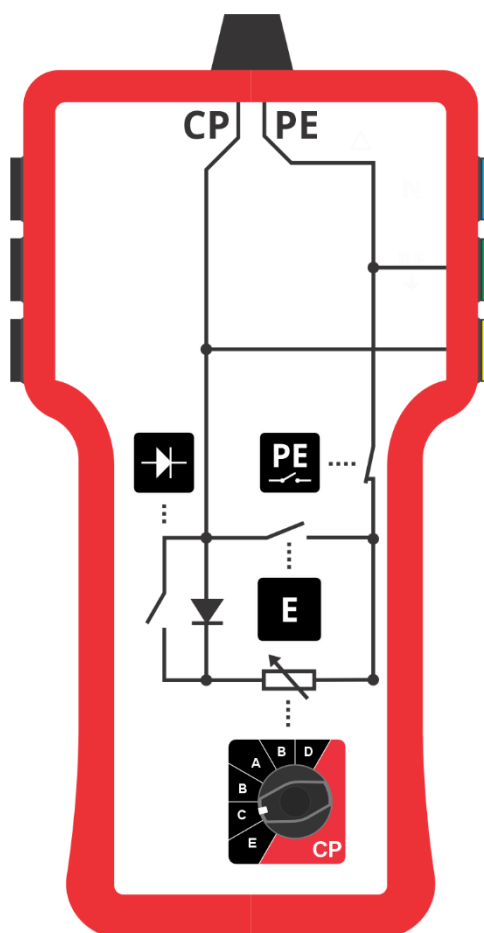

Figure 12: CP state switch and error buttons inside the Instrument.
- **This is not the same as state E on CP state switch** (refer to Figure 12)